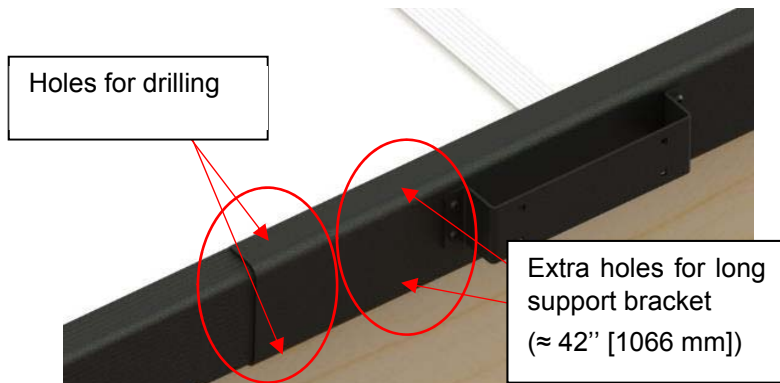
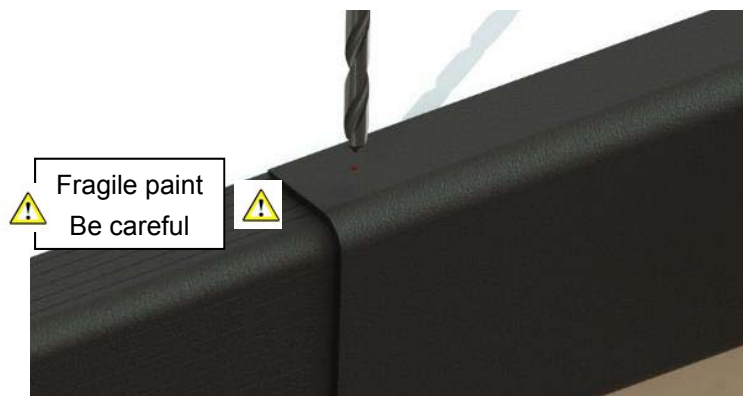

Figure 38
Figure 39
37) Use the provided 5/32" drill bit to drill the holes on the top and bottom of the support bracket (four holes per bracket) (Figure 38 and Figure 39). Use the pre-drilled holes in the support bracket as guidance.